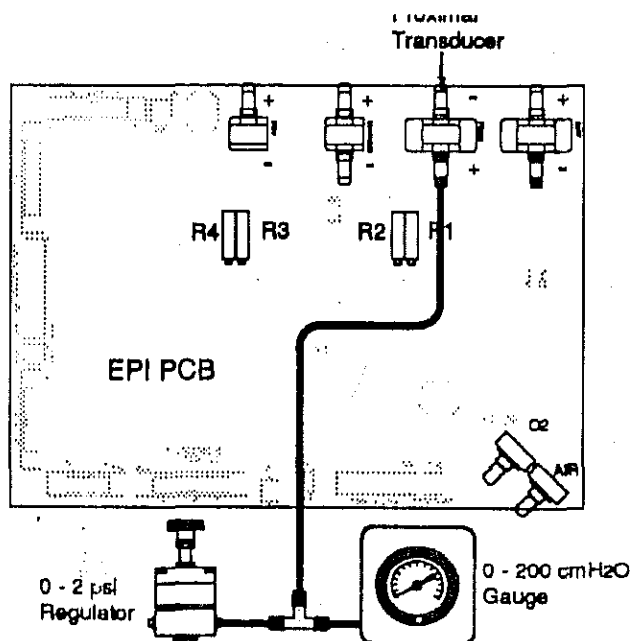

Figure 5-2
11. Connect the Proximal Transducer as shown in Figure 5-2 except to the opposite port (negative) and apply 40 ± 5 cmH₂O pressure.